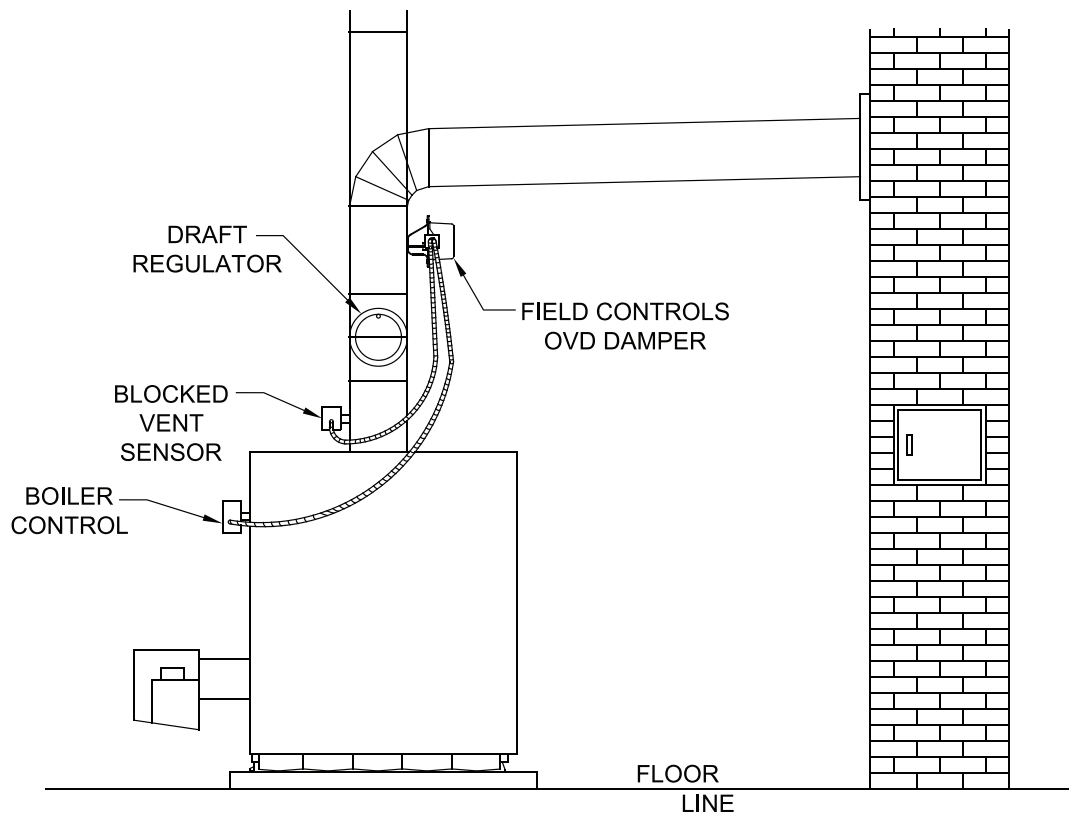

Figure 1: Installation of OVD
2. Install OVD and Field Controls WMO-1 Blocked Vent Safety Shut-Off Switch (included) in accordance with Field Controls Oil Vent Damp System manual and Figures 1 and 2.